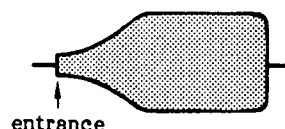

Fig. 6
- (4) Put the unit into the REV x 1 mode.
- (5) Check that the RF waveform envelope is small at the drum entrance side as shown in Fig. 6.